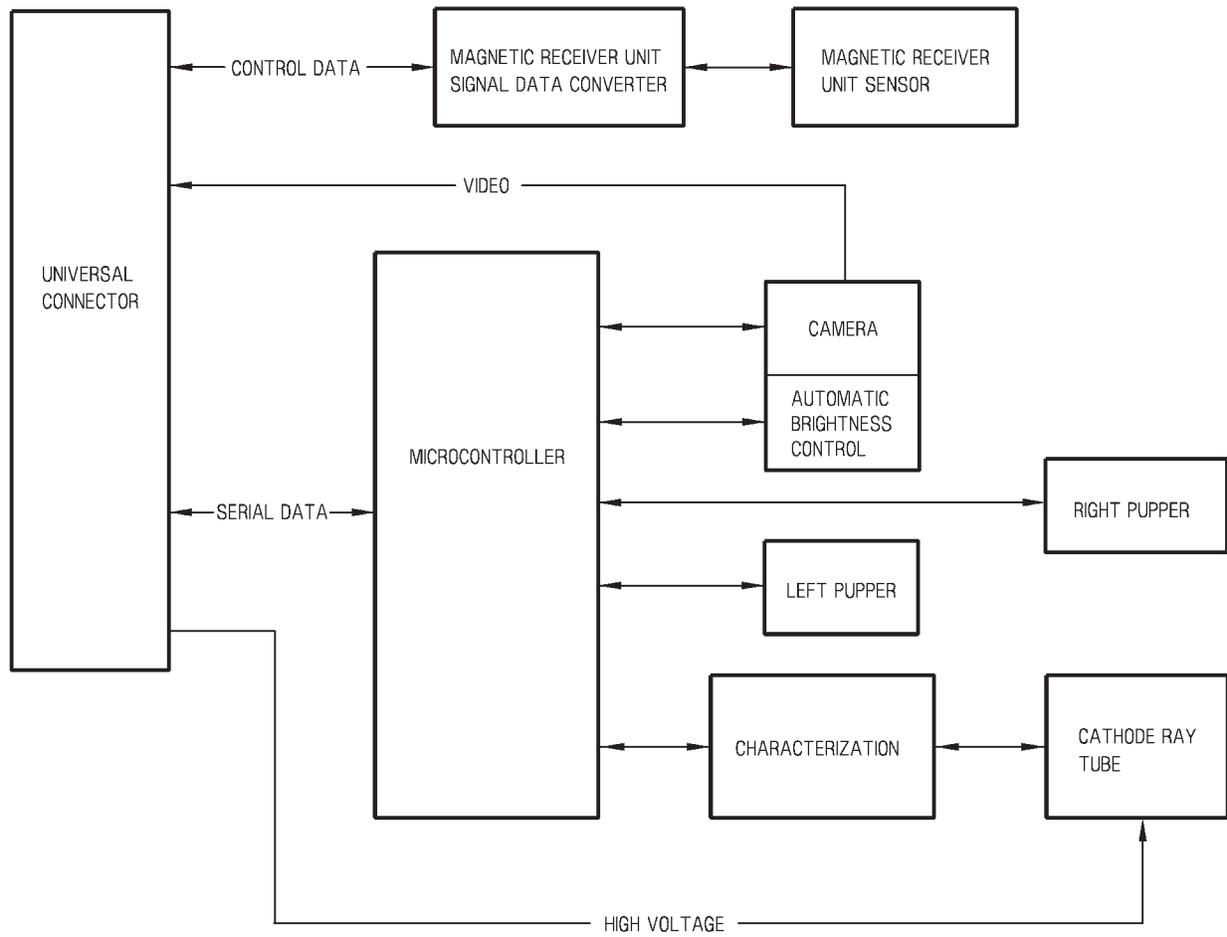

Figure 2. Helmet Display Unit Block Diagram
25. The upper HVI is routed through the helmet and terminates at the quick disconnect connector (QDC). The upper HVI contains the universal connector (UC), the helmet release connector (HRC), and the top half of the hip-mounted QDC.
26. The UC allows the display unit (DU) to be removed from the helmet. The UC provides a means to attach other devices, for example, night vision goggles, to the existing helmet system. The HRC provides a break point that allows the helmet to leave the pilot's head cleanly, so the helmet is not pulled back toward the pilot. The QDC provides the interface between the pilot and the aircraft.
30. Figure 1 shows the helmet display unit components. Figure 2 shows a block diagram of the helmet display unit.